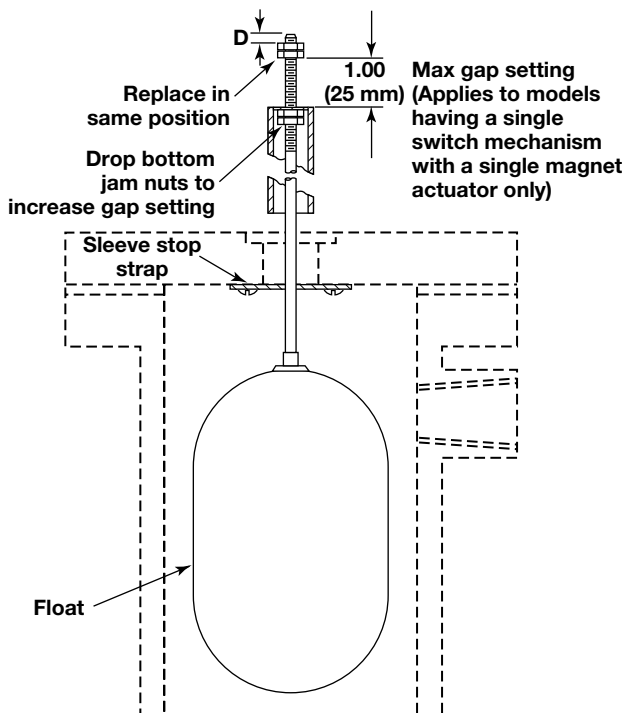

Figure 8
10. Measure the distance "D" from the top edge of the upper jam nuts to the top of the float stem. Refer to Figure 8. Record this measurement.
12. Loosen and adjust lower jam nuts to the desired position. Tighten lower jam nuts securely. Refer to Figure 8.
14. Replace upper jam nuts and guide washer on the stem in the position previously noted. Tighten upper jam nuts securely. Refer to Figure 8 on page 6.